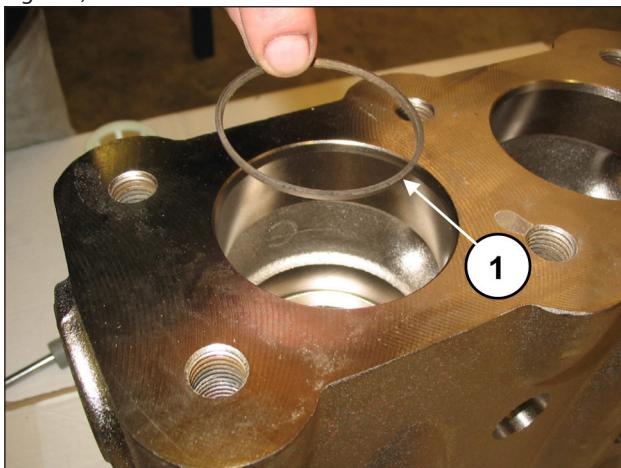

Fig. 113
Insert the back-up ring, exploded view pos. 5 (pos. ①, Fig. 113).